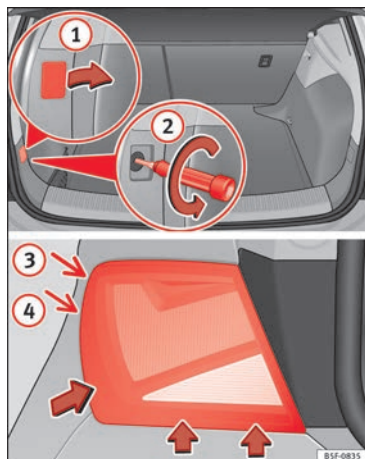

Fig. 111 Luggage compartment: location of the bolt securing the tail light unit. Remove the rear light unit from side panel.
- Remove the cover by prying the flat side of a screwdriver into the recess and remove the cover from the opening » **Fig. 111** (1).
- Carefully loosen the screw located behind the cover with a screwdriver, turning it anti-clockwise » **Fig. 111** (2).
- Tilt the light in the direction of the arrows until it comes out of its housing (positions (3) and (4)) » **Fig. 111**.